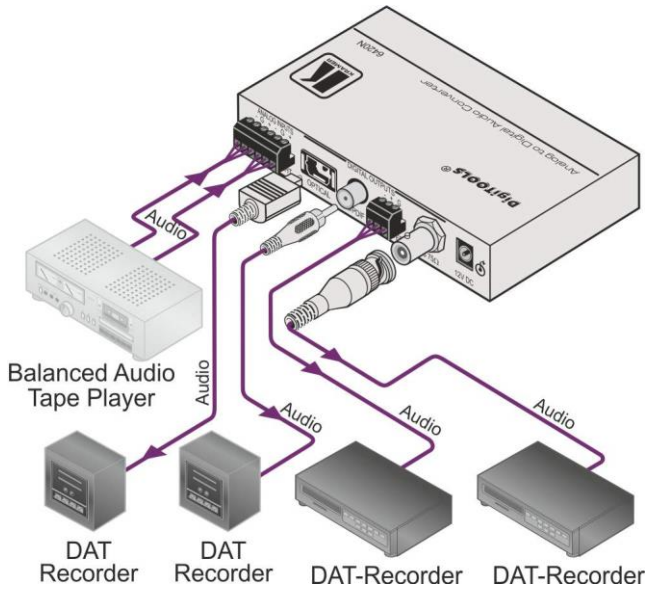

Figure 7: Connecting the 6420N Analog to Digital Audio Converter
To connect your **6420N Analog to Digital Audio Converter**, as illustrated in the example in Figure 7, do the following:
3. Connect the 12V DC power adapter to the power socket and connect the adapter to the mains electricity (not shown in Figure 7).